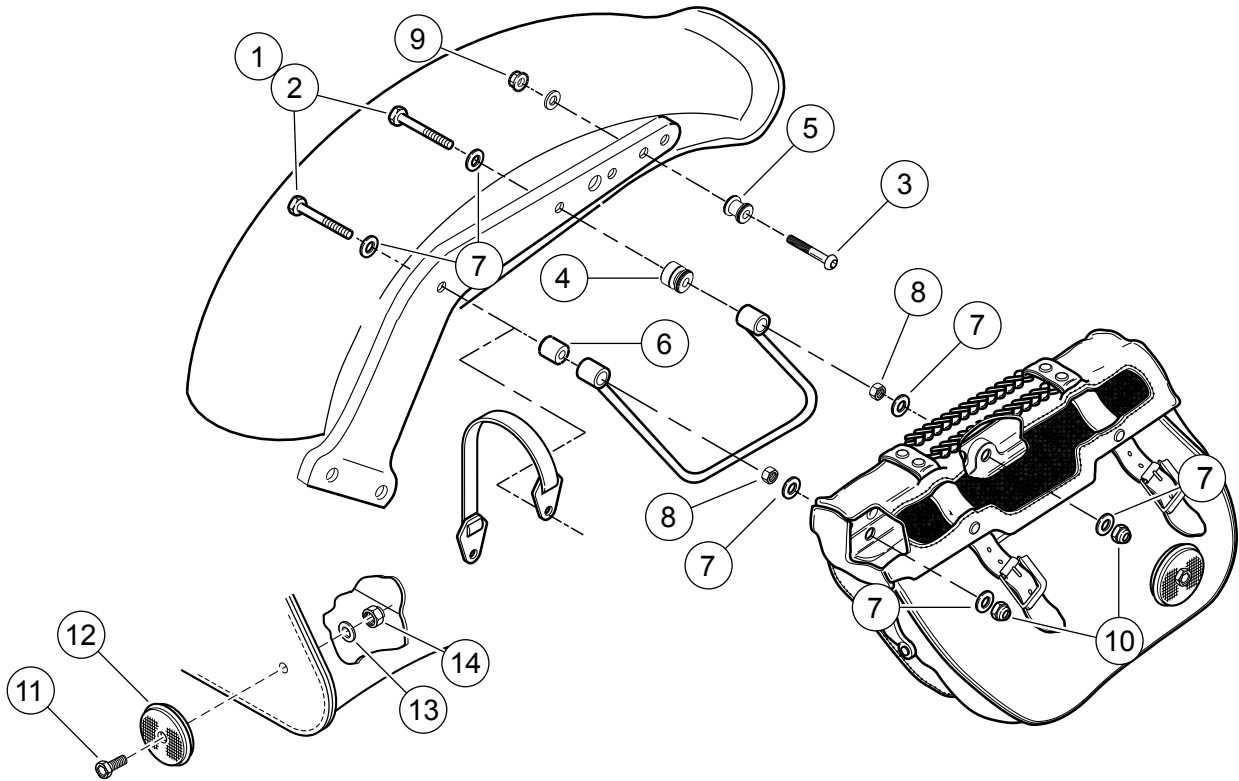

Figure 2. Service Parts: Softail Docking Hardware Kit
See Figure 2 and Table 1.
See Figure 2. The rear docking point (5) is wider than the front docking point (4).
1. See Figure 2. Place washer (7) on bolts (1 or 2).
3. Place washer (7) on bolts (1 or 2) for bags with molded plastic back. If bolts extend through metal plate on inside of bag, washer is not required.
4. Secure saddlebag with locknut (10). Torque locknut to 37 N·m (27 ft-lbs).
1. See Figure 2. Align round reflector (12) with saddlebag. Mark reflector mounting position on saddlebag.
3. Install screw (11) to reflector (12) and insert screw to saddlebag. From inside saddlebag install washer (13) and nut (14) and tighten as needed.